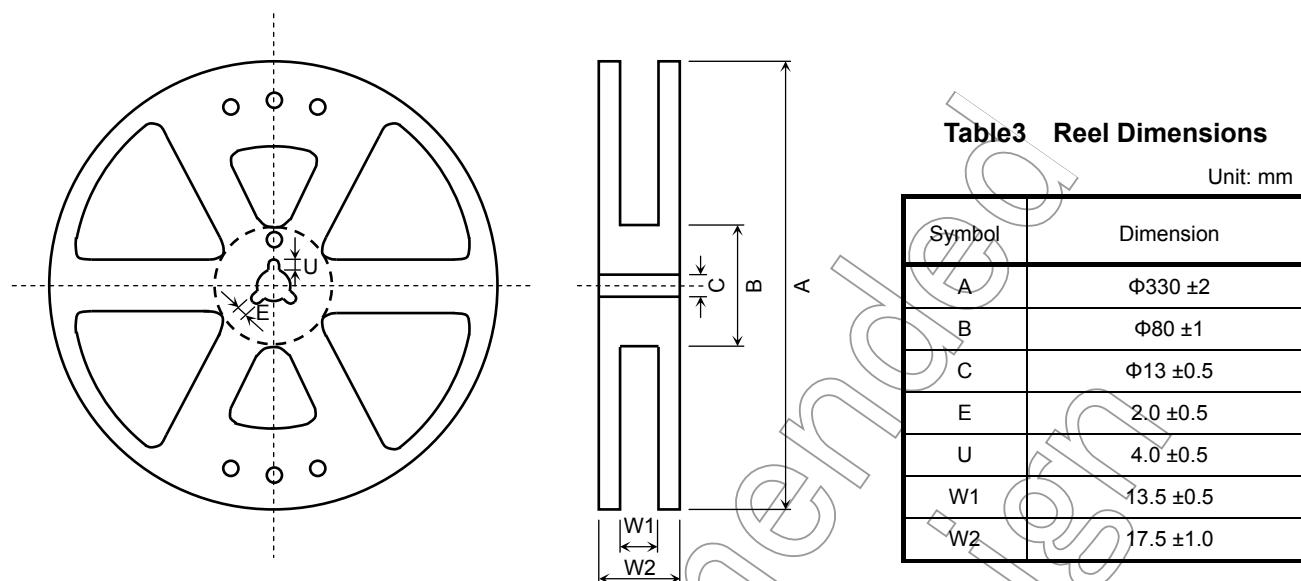

Figure3 Reel Form
- (1) Material: Plastic
- (2) Dimensions: The reel dimensions are as shown in Figure 3 and Table 3.